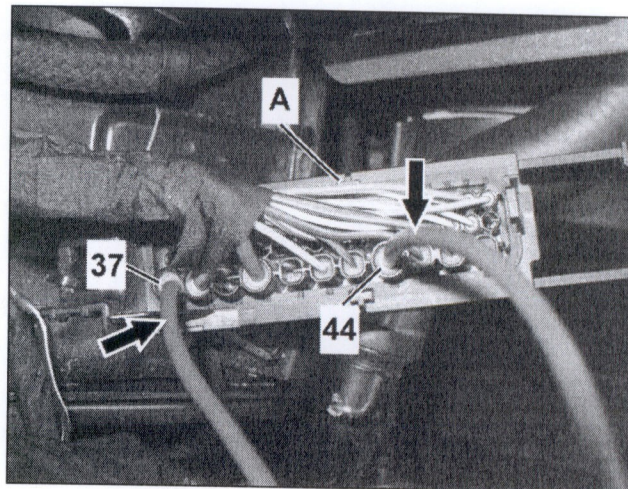

Figure 17
14. Remove SBC ground wires (arrows, Figure 17) from SBC harness connector (A):
- Unpin SBC ground wire connectors (position 37 and 44) using cable release (Special Tools: W 000 589 13 99 30 and W 220 589 01 99 50) and remove ground wires (arrows) from SBC connector housing (A).
15. Insert the new ground wire harness (arrows Figure 17) into the SBC connector housing (A):